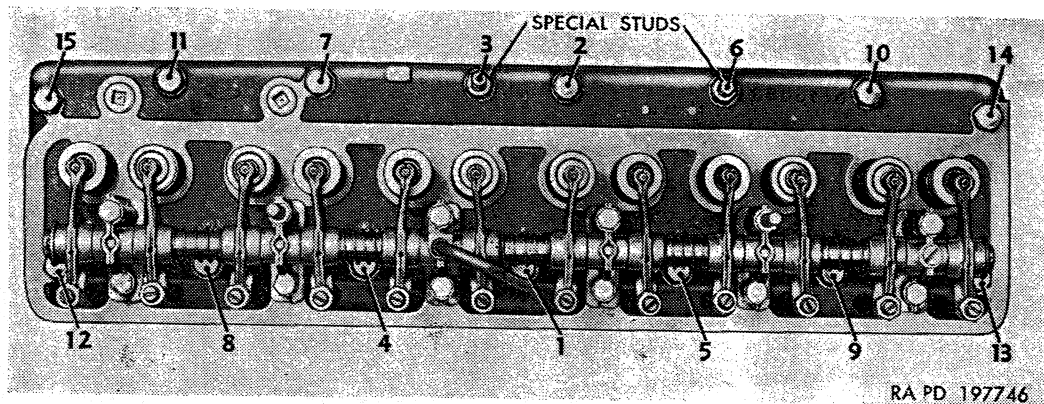

Figure 102. Cylinder head bolt tightening sequence.
*Note.* Two special studs are used and must be properly located as shown in figure 102.
- (3) Following the sequence indicated in figure 102, tighten cylinder head bolts evenly to recommended torque. Refer to figure 102 and tighten according to bolt head markings (par. 110c).